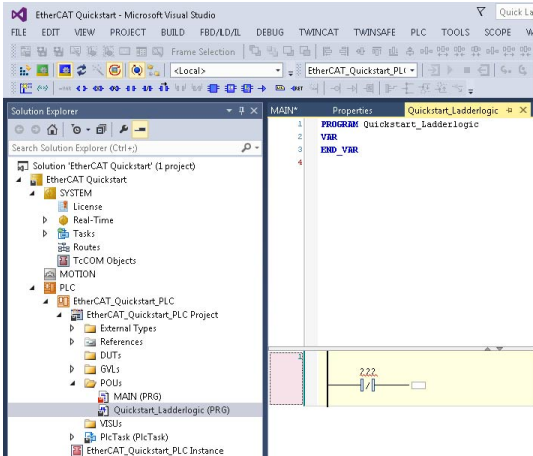

Figure 47. Negated Contact Inserted
5. The **Negated Contact Inserted** window (see Figure 47) appears after selecting the negated contact.